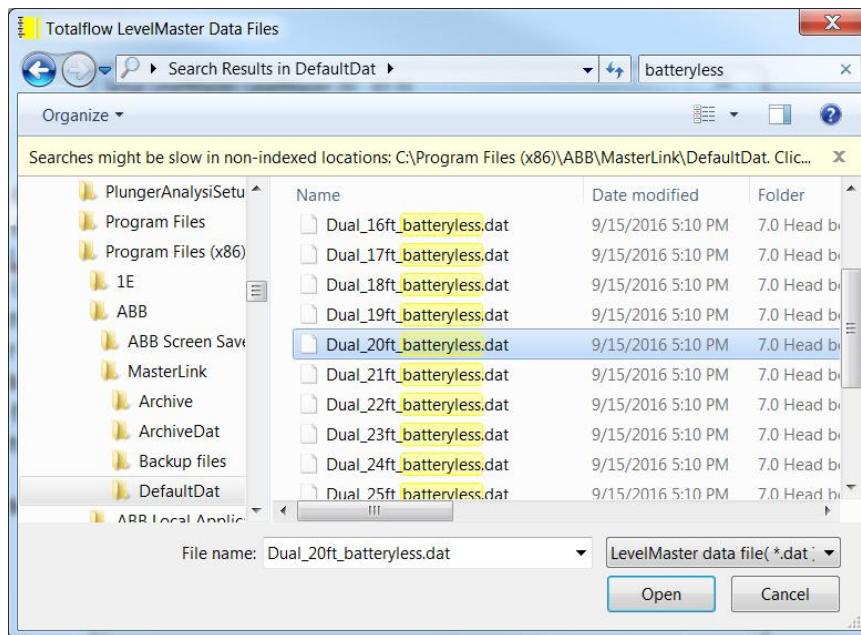

Figure 62: Locating the correct factory default configuration file
- b. For example, for a 20 foot sensor with a 2104836-001 board, select the "Dual\_20ft\_batteryless.dat" file from the 7.0 Head board folder (Figure 62).